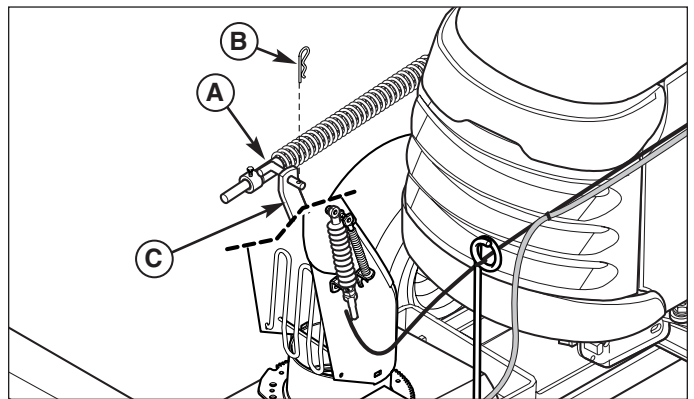

**Figure 24. Install Snowthrower**
1. Position the snowthrower in front of the hitch. Insert the hitch pin (A, Figure 24) through the snowthrower and hitch on both sides of the snowthrower. Secure with a hair pin clip (B). Use the back set of hitch holes (see inset).
**NOTE:** The hitch pin (A) goes in between the belt, NOT below or above it.